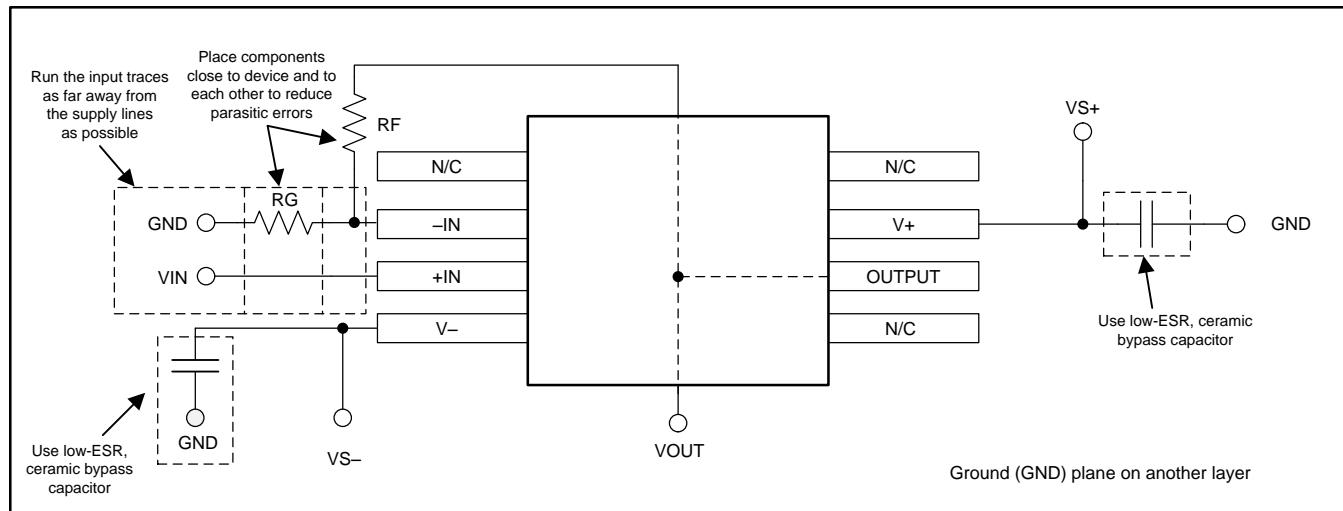

Figure 70. Operational Amplifier Board Layout for Noninverting Configuration
- Place the external components as close to the device as possible. As illustrated in Figure 70, keeping RF and RG close to the inverting input minimizes parasitic capacitance.